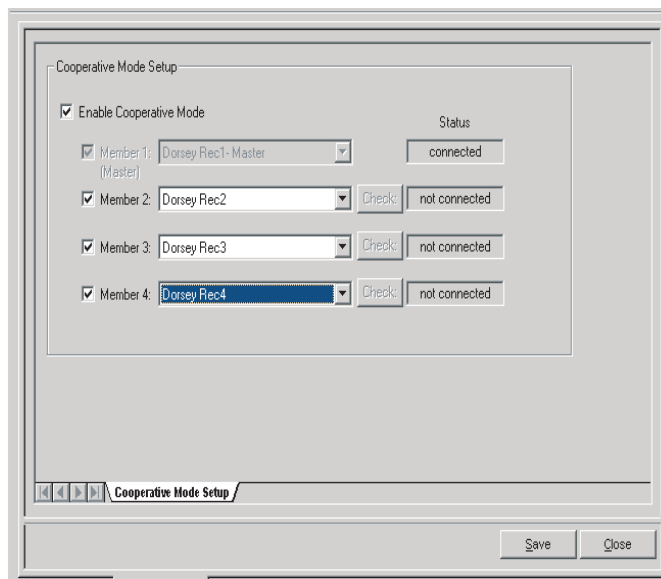

Figure 13.2: Cooperative Mode Setup Screen
To assist in verifying and troubleshooting network connections, an IP "Ping" function is available through the recorder's Maintenance Menu. In addition, a communications status indicator is available in Control Panel (see the Check button on the Cooperative Mode Setup screen, Figure 13.2 on page 13-8).
- c You are now in the *Utilities – Cooperative Mode Setup* screen as shown in Figure 13.2.
The *Check* button beside the member recorder names in Figure 13.2 initiates a status check of the communications between the member recorders. It can be used at any time.